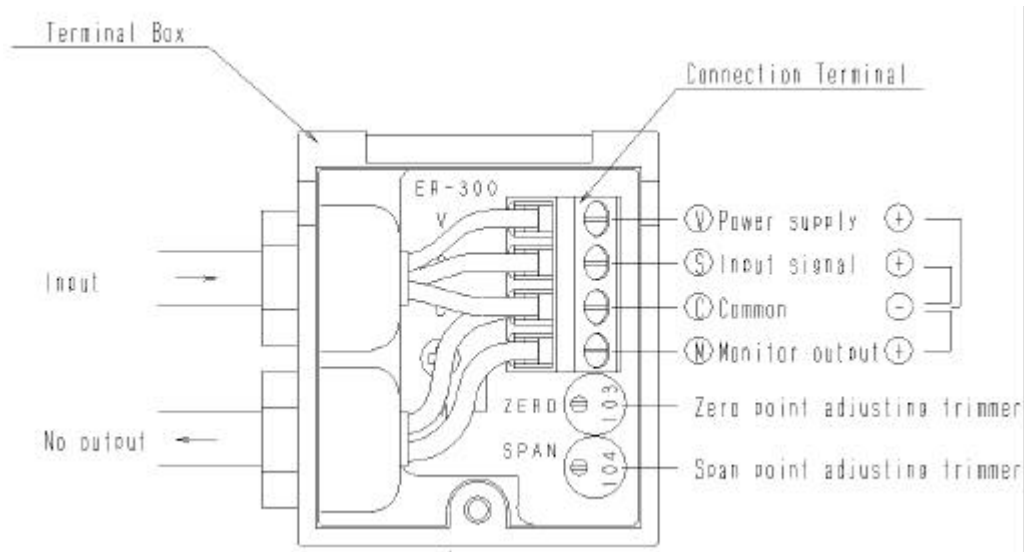
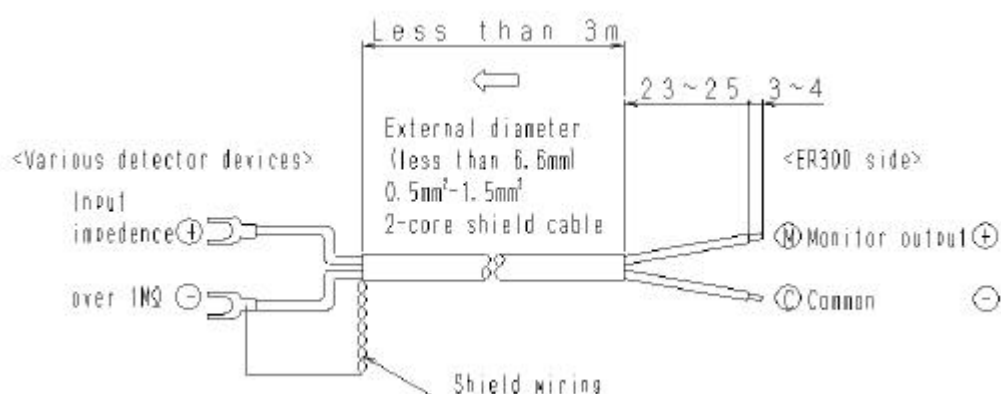

Fig5 .Voltage Input(3-Line System)Connection Diagram
Fig 8 .Monitor Output Cable
As Figure4 indicates, connect to the respective terminals as indicated in Fig5.
- * Connect to the terminals as indicated in Figure5, with the 6mm external diameter, 0.5-1.5mm² 2-core shield cable as indicated in Fig8